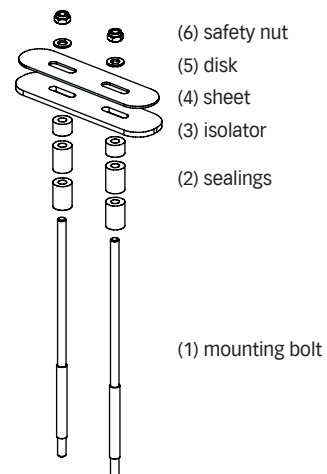

Fig. 26: assembly mounting bolts
Finally screw together the mounting bolts like illustrated in fig. 26 cutting them in the boat interior as necessary. Apply seals (2) according to the hull thickness (note: hull thickness + 25%). On hulls out of GRP and boreholes of 9 mm the seals (2) can be omitted by using suitable sealant (e.g. Sikaflex).